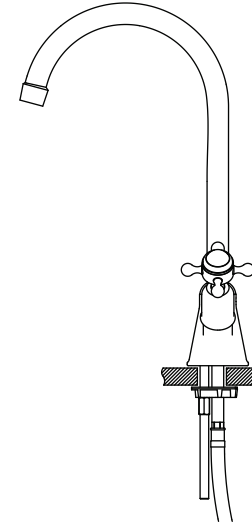

Fig. 2
- Use the washers and backnuts provided to install the mixer into the sink as shown in Fig. 2;